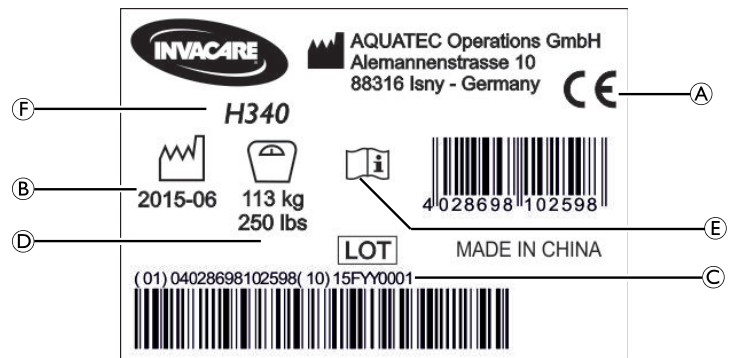

Fig. 2
2.2 Labels and symbols on the product (Fig. 2)